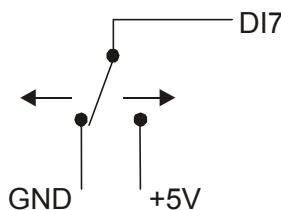

Figure 5. Schematic showing switch detection by digital channel DI7
You can use the digital input terminals to detect the state of any TTL level input. Refer to the schematic shown in Figure 5. When the switch is set to the +5V input, DI7 reads *TRUE* (1). If you move the switch to GND, DI7 reads *FALSE* (0).